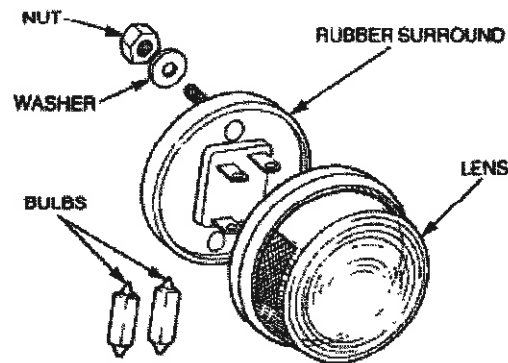

Figure 40 Stop/Tail and Number Plate Light - Exploded View
- Replace the bulb as required (Figure 40).